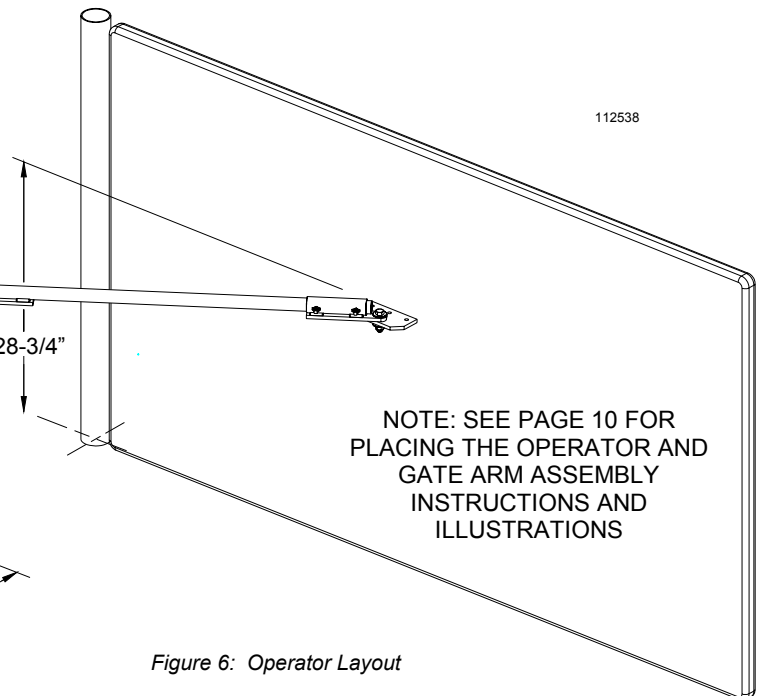
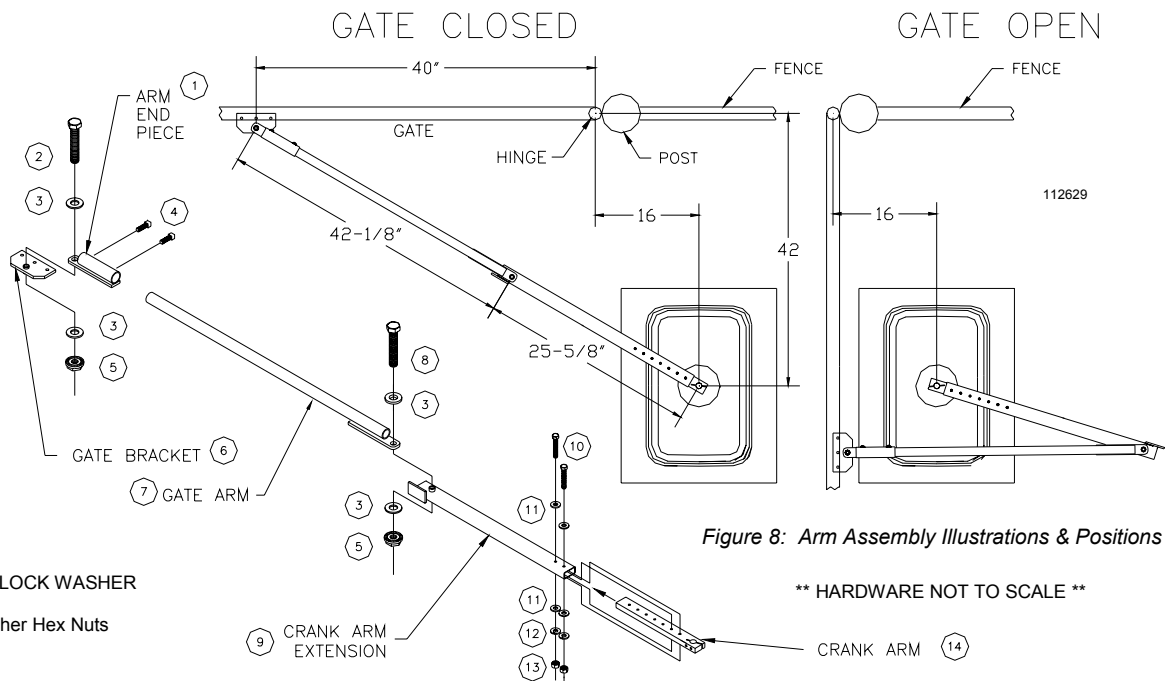
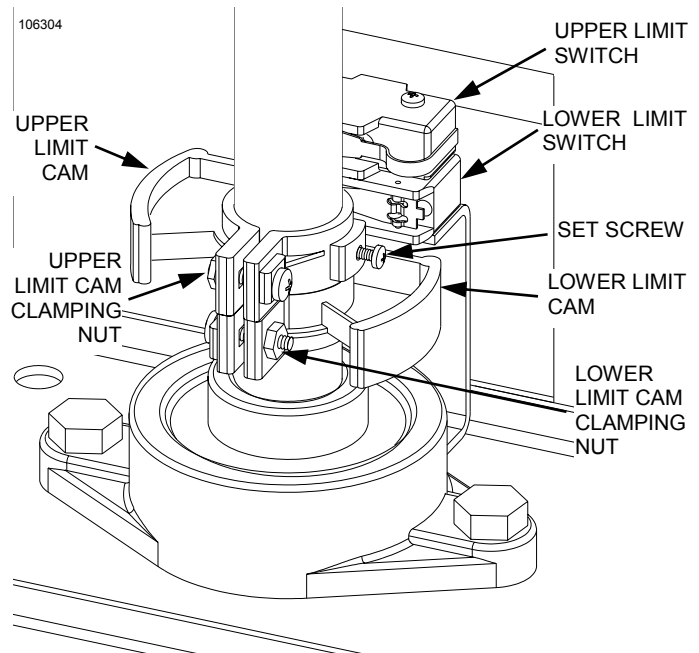

Figure 6: Operator Layout
Figure 8: Arm Assembly Illustrations & Positions
Figure 11: Limit Switches
The recommended procedure for attaching the GS6000 to the concrete pad is first to locate and drill the hole for the mounting hole nearest to the gate post. Locate this hole by referring to Figures 5 and 6 (Page 6) and Figure 8 (Page 10). Figure 5 features an aerial view of the operator footprint and concrete pad outline for a *left-hand* mounted GS6000 operator with gate. Figure 6 features an isometric view of a *left-hand* mounted GS6000 operator with gate. Figure 8 features an aerial view of a *right-hand* mounted GS6000 operator with gate and an isometric view of the gate arm assembly in a exploded fashion. All dimensions are applicable to either the left-hand or right-hand views, transpose them as necessary to your particular installation. **Ensure the operator is placed on the concrete pad such that the center of the output shaft is 42" vertically and 16" horizontally away from the gate center hinge point, as illustrated in Figure 5. These are the critical dimensions for this part of the installation.**
Temporarily locate the Gate Bracket on the gate with C-clamps or by tack welding. The gate bracket is installed to the gate so the gate arm will be level when connected to the GS6000 output shaft. See Figure 6 on page 6 and Figure 8 on page 10 for positioning of the Gate Bracket. The 28-3/4" dimension as referenced in Figure 6 assumes a pad height of 3" above ground. Adjust the placement of the gate bracket on the gate at such a height that corresponds with the height of the concrete pad (add to the 28-3/4" dimension if the pad is higher than 3", subtract if lower. **The 40" horizontal dimension referenced in Figure 8 and the 28-3/4" dimension referenced in Figure 6 are the critical dimensions for this part of the installation.** Again this is a temporary placement, the gate bracket will be permanently mounted after the gate arm is assembled and installed. Move the gate to it's fully closed position and temporarily immobilize the gate in that position.
As shown in Figure 8, attach the Crank Arm Extension to the Crank Arm with the (2) 1/4-20 x 1-1/2" long bolts, (4) 1/4 internal tooth lock washers, and (2) 1/4-20 keps washer hex nuts, (Items 9 through 13) provided. For a standard installation use the two holes
Assemble the gate arm as shown in Figure 8, sliding the arm end piece onto the end of the arm tube and tightening the 5/16-18 x 5/8 long square head set screws. Again as a matter of note, the gate arm can be shortened (if necessary due to the gate bracket placement, etc.) by cutting off a length from the tube. Attach the gate arm to the crank arm extension and the gate bracket using the 1/2-13 x 2 bolt (at gate bracket), the 1/2-13 x 2-3/4 bolt (at the crank arm extension), the four 1/2 flat washers and two 1/2-13 nylock hex nuts as shown in Figure 8. The gate arm is now fully assembled with a total length of approximately 67-3/4"
With the Gate still immobilized in the closed position, the "elbow" will be up against the closed position stop on the Crank Arm Extension. At this time adjust the placement of the gate bracket and/or the length of the crank arm/extension or gate arm to ensure when the gate is fully closed the arm is in a straight and locked position (from output shaft to gate bracket) as shown in the left illustration in Figure 8.
Move the Gate to the fully open, 90 degree position as shown in the right illustration in Figure 8. The crank arm/extension should fold back over the arm as shown. If it doesn't, some adjustment of the gate bracket or operator position may be necessary. With the gate in the fully open position, adjust the stop pall on the sprocket against the stop on the GS6000 frame and tighten the set screw. Open and close the gate several times until you are satisfied that the arm position is correct.
If this is a right hand (RH) installation (as shown in Fig. 8) the upper switch is the Close limit switch, if this is a left hand (LH) mounted operator (as shown in Fig. 6) the lower switch is the Close limit switch. Referring to Fig. 11, loosen the clamping screw and nut and the set screw on the Limit Switch Cam for the appropriate switch. Rotate the cam on the output shaft (clockwise as you look at the shaft from the control box if RH mounted, CCW if LH mounted) until it engages the Limit Switch and an audible "click" is heard. If resetting and the operator is under power the LED indicator on the control board can be used as an additional indicator that the switch has activated. Repeat this several times until you are confident that the position of the cam is such that the Limit Switch is just closed.
Remove the temporary immobilization from the gate and open the gate to it's **FULLY OPEN** position. Repeat the setting procedure for the remaining Limit Switch and Cam, ensuring to rotate the Limit Cam in the opposite direction from the rotation in the previous paragraph, also see Figure 11.
The GS6000 Control panel is configured at the factory for right hand operation - where the operator is mounted to the right of the gate leaf as you look at the installation from the inside (secured side, as shown in Fig. 8).
operator. For this installation, one operator must be mounted and configured for Left Hand operation and the other mounted and configured for Right Hand operation. For configuration see paragraph directly preceding, for an illustration of LH mounting see Fig. 6, page 6 and for an illustration of RH mounting see Fig. 8, page 10.